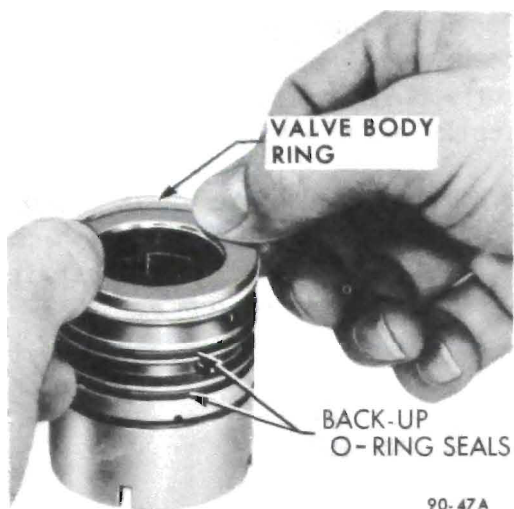

Figure 90-57 Installing Valve Body Rings
1. If removed from valve body, lubricate three new ring back-up "O" ring seals in power steering oil and assemble in the three ring grooves on the valve body. Assemble three new valve body rings in the ring grooves over the "O" ring seals by carefully slipping over the valve body. See Figure 90-57.